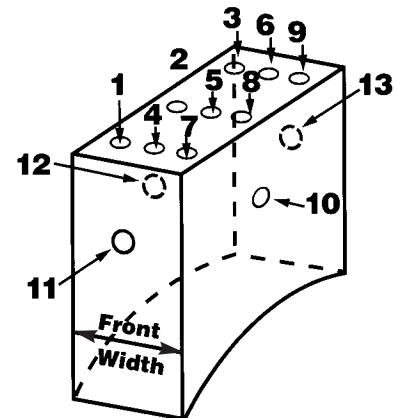

Figure 14. Typical Slip Ring Brush
- b. Brushes with a thickness dimension which is greater than the width: see Figure 14. This generally applies to slip ring brushes.